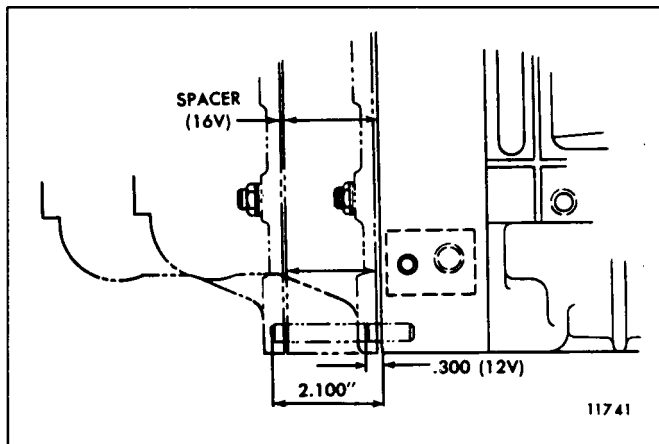

Fig. 24 – Governor Drive Assembly
13. If removed, press two (2) 1/2" x 15/16" dowel pins .300" above the end surface of the front blower end plate on a 12V front blower (Fig. 24).